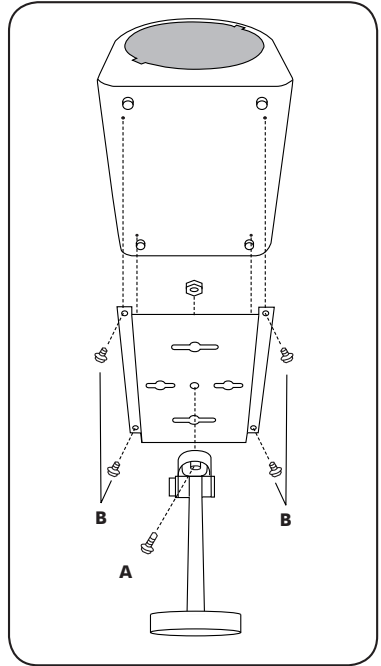

Fig.24: You must attach the arm to the mounting plate BEFORE attaching the mounting plate to the ScentWave.
- Attach the mounting plate to the pivot end of the wall mounting bracket through the center hole using the provided lock nut and screw. Tighten using a screwdriver to secure the nut in place. **(Fig.24)**